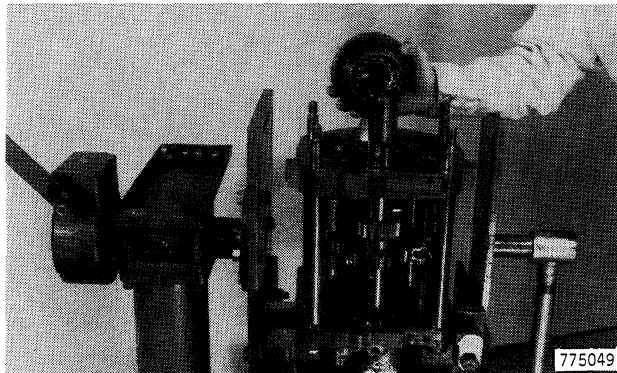

Figure 51
23. Remove reverse gear, Figure 51.